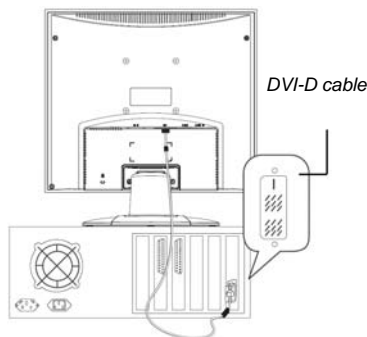

Figure 2b. Connection via the DVI-D interface
3. If you have a graphic card with a digital DVI-D connector (24-pin socket), then connect one end of the DVI-D cable to the DVI-D connector of your monitor (see fig. 2b), the other end to the computer.